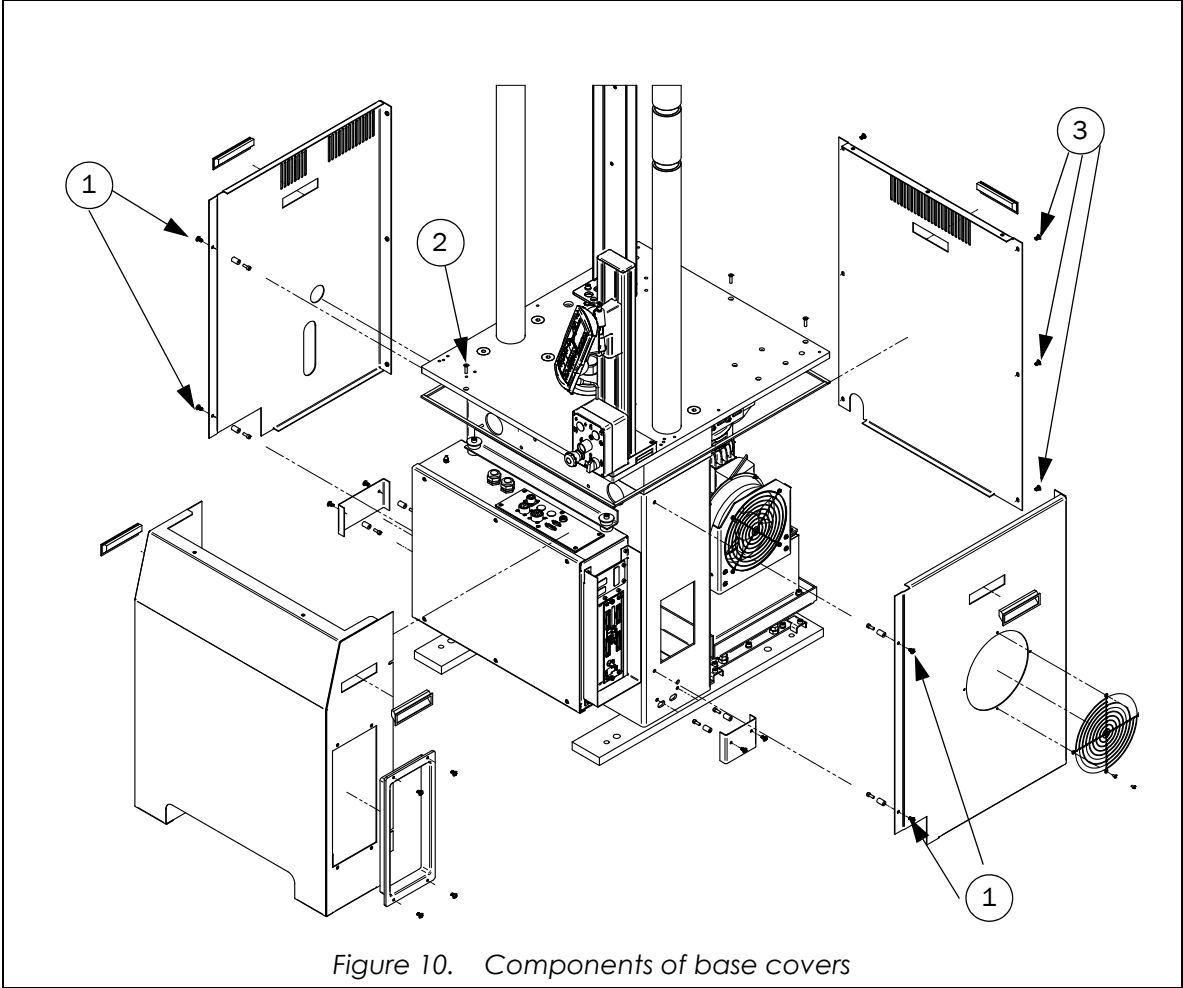

Figure 10. Components of base covers
2. Loosen the four M6 button head cap screws (1, Figure 10) on the side of the base unit, at the front. It is not necessary to remove the cap screws, just loosen them.
3. Remove the two M6 flat head cap screws on the top of the base unit, at the front. One screw is shown as (2) in Figure 10, the other is hidden behind the hydraulic control panel.
1. Remove the six M6 button head cap screws (3, Figure 10) on the rear panel of the base unit, three on each side. It is not necessary to remove the rear cover; it is still held in place by flat head cap screws through the top plate.